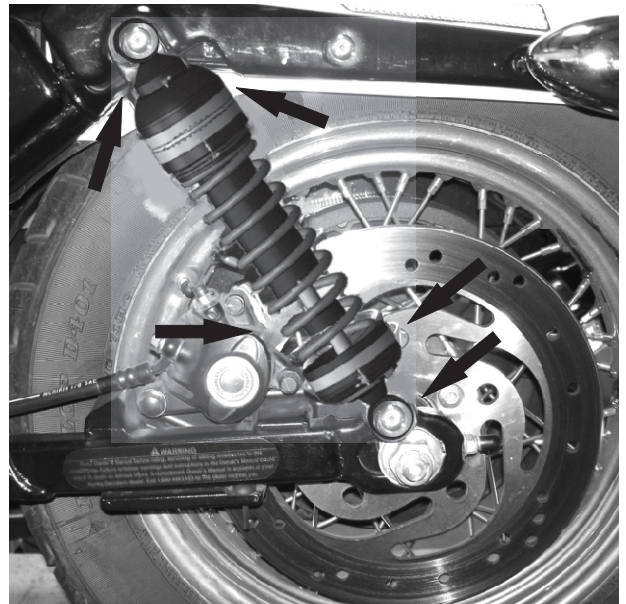

Fig 1
3. Before installing your new Progressive shocks you need to check the tire to fender clearance, making sure that the tire does not come in contact with the fender. If the rear fender or tire has been changed to anything other than stock, a travel limiter may be required. On some models with side bags or luggage, the bag or luggage mounts may need to be modified to eliminate any interference. Install the shock assemblies onto the motorcycle with the included hardware, note any special instructions in the hardware kit. Tighten bolts / nuts to their proper torque. Check the clearances of the shock to the frame, shock to chain or belt, shock to chain or belt guard and shock to brake caliper and/or linkage. See arrows in Fig 1 , check both sides.